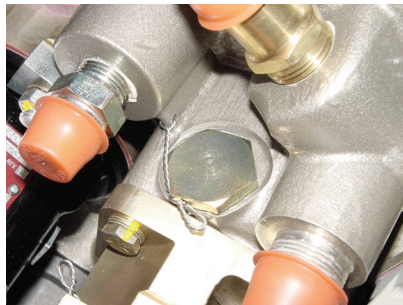

Figure 8-8 Vent Plug
1. Cut the safety wire and remove the existing vent plug (Figure 8-8), if installed.